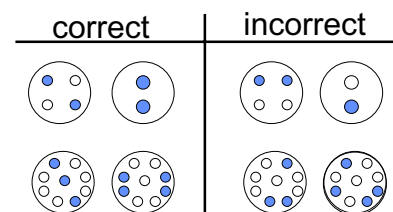

figure 4
5.2.4 For partial loads of swing-out rotating equipment, tubes should also be symmetrically distributed with respect to the rotational axis of the swinging bucket. (see fig. 4).